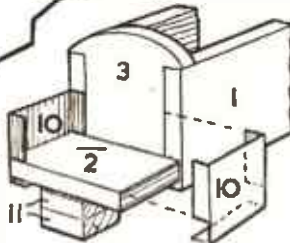

Fig. 2
Now add the card pieces (10) as shown in Fig. 2. This drawing omits the cab for clarity. The pieces are glued between the cabs and the sides. The bottom loop glues eventually to the top of the bogie frames.